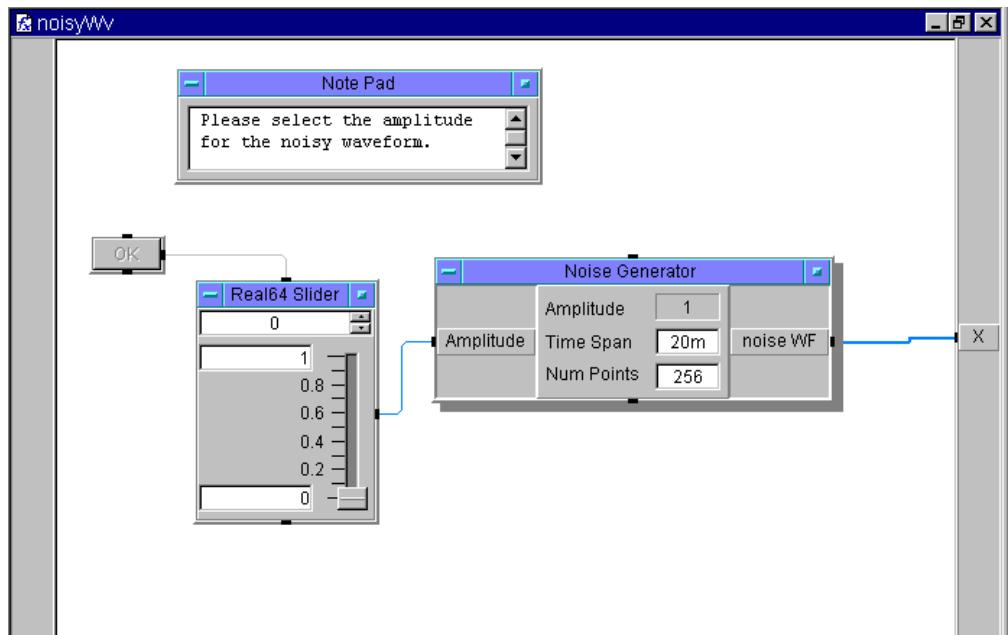

Figure 9-11. The noisyWv UserFunction (Detail)
- Create the UserFunction called noisyWv, as shown in Figure 9-11 in the Detail view.